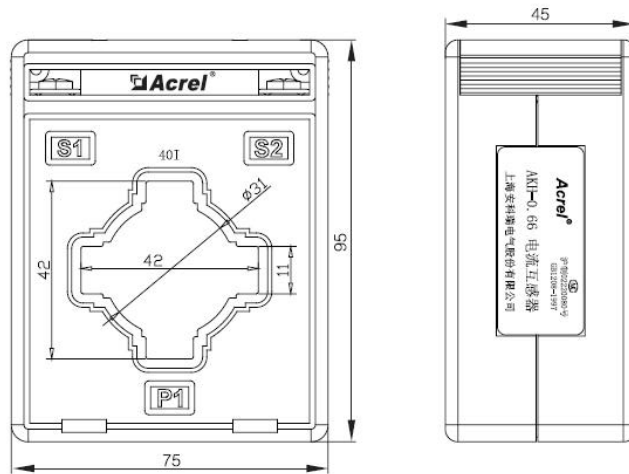

Fig. 6 External dimensions of current transformer 250A
5.4.2 The external dimensions of the 250A current transformer are shown in FIG. 6 (unit: mm) :